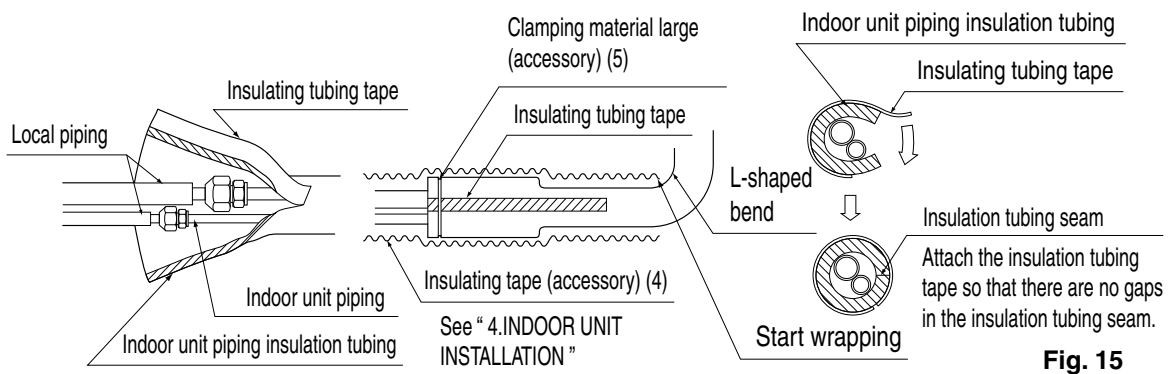

Fig. 15
- After checking for gas leaks, be sure to insulate the pipe connections using the supplementary piping insulation tubing and insulating tape (4). The insulating tape (4) should be wrapped from the L-shaped bend all the way to the end inside the unit. (**Refer to Fig. 15**)